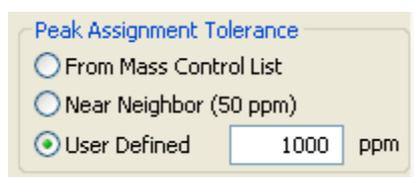

Figure 14 Peak Assignment Tolerance parameter
6. On the **Calibration** tab (Figure 9), check that the **Peak Assignment Tolerance** parameter is set to the maximum value of 1000 ppm (Figure 14).